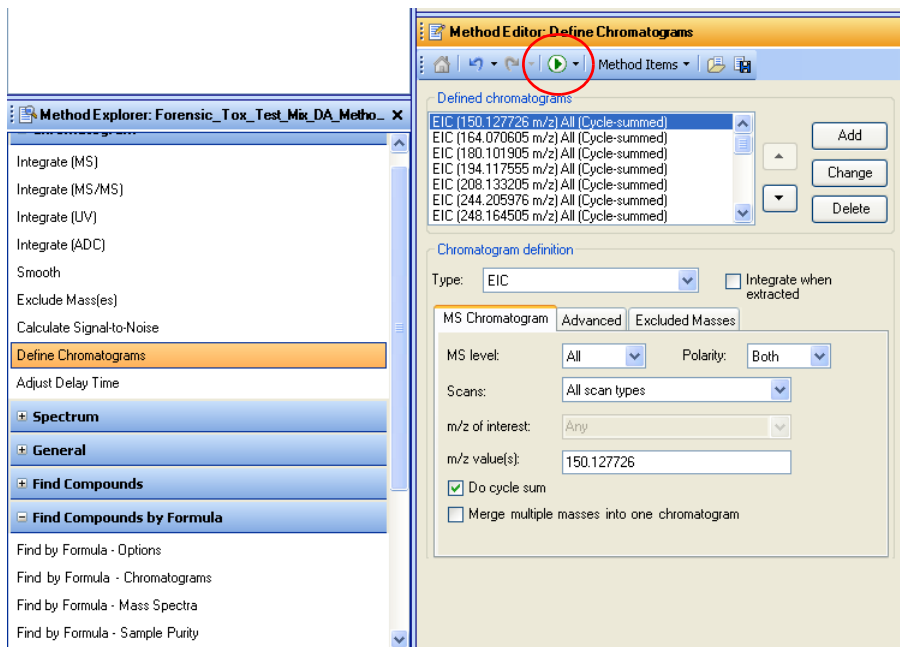

Figure 2 Define Chromatograms section selected. Click the green arrow (circled) to extract the ions.
- c In Method Explorer, click **Chromatogram > Define Chromatograms**. See Figure 2.